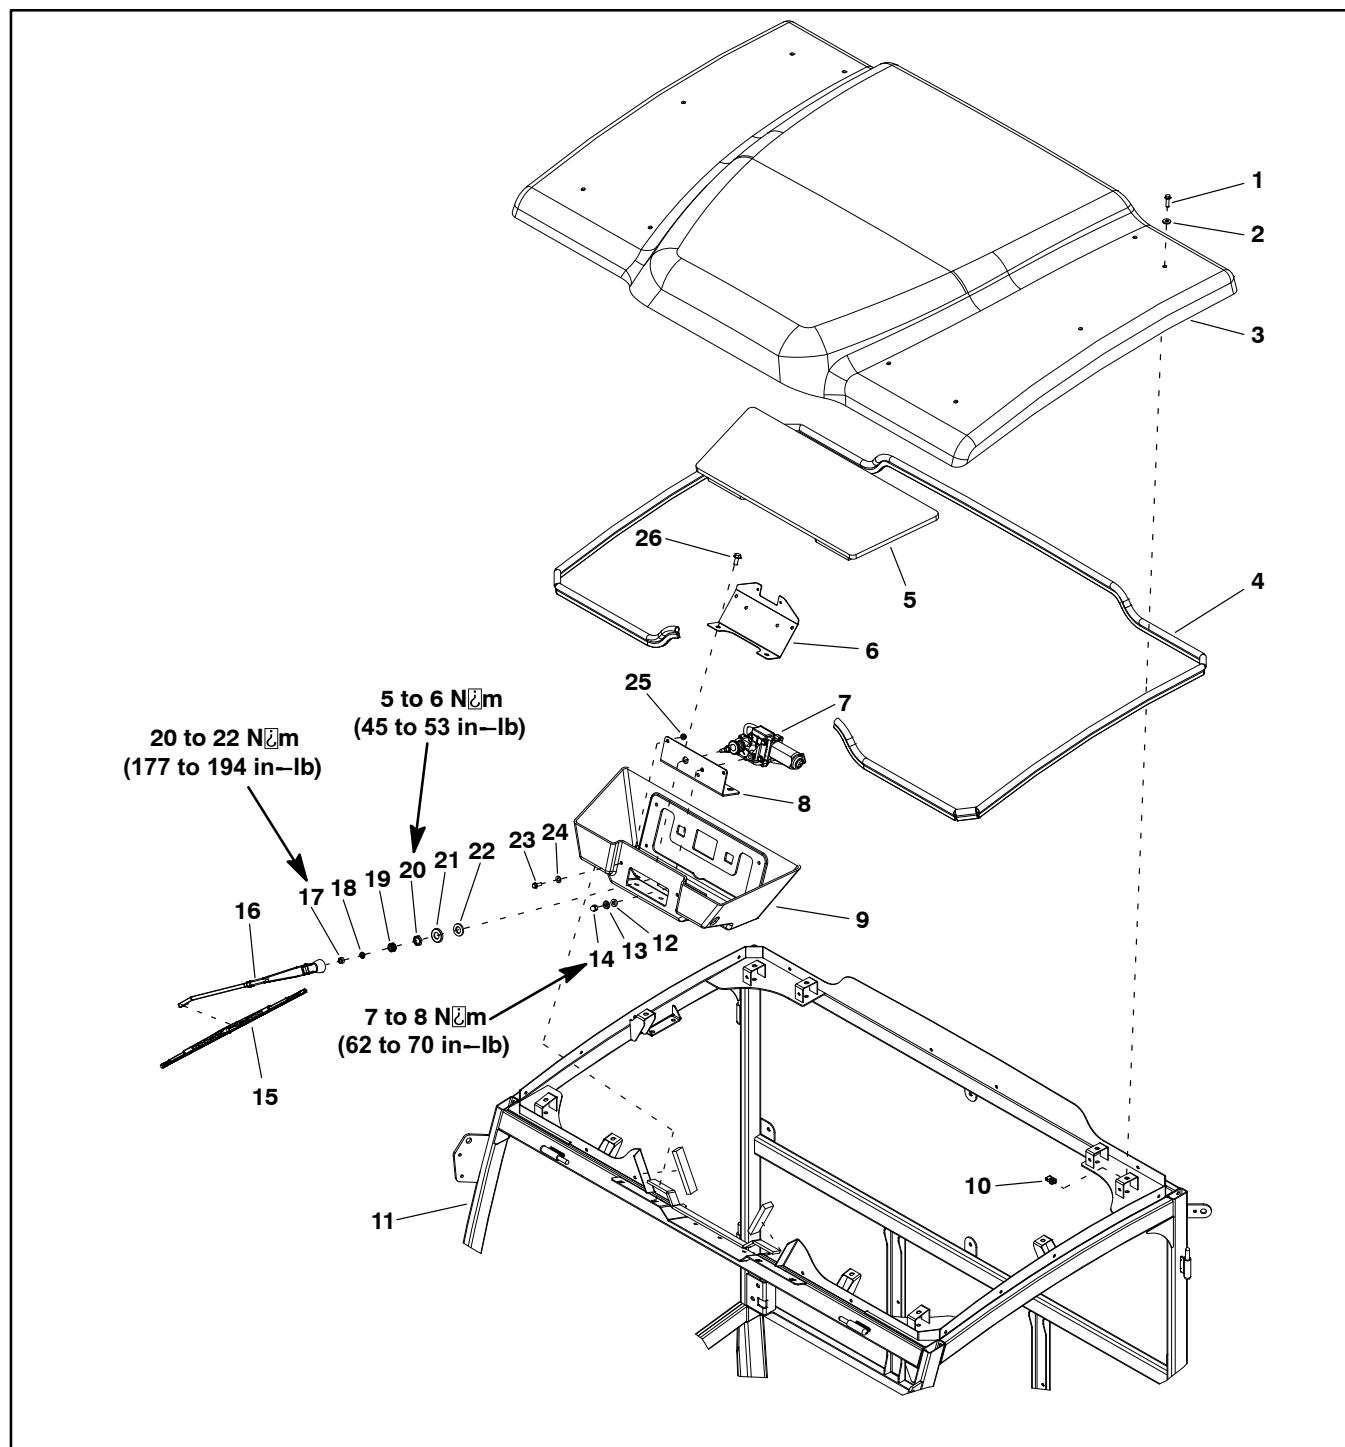

Figure 41
Removal (Fig. 41)
2. Remove the wiper blade (item 15 in Fig. 41) from the wiper arm.
5. Remove the wiper motor components as shown in Figure 41.
Installation (Fig. 41)
2. Install the wiper motor components that were removed (Fig. 41) and do the following: